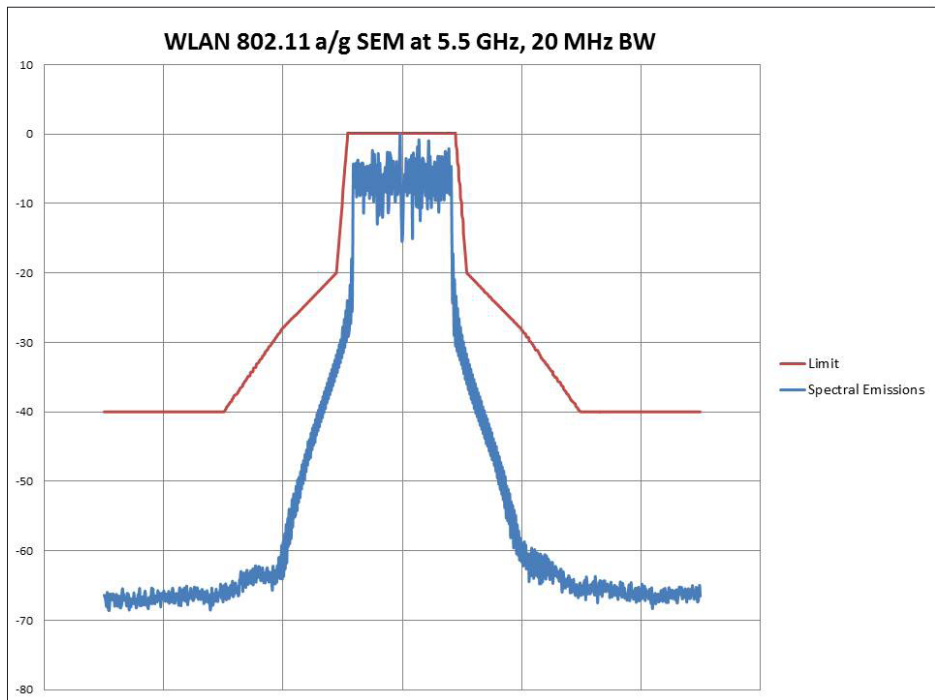

Figure 12. WLAN 802.11 a/g SEM at 5.5 GHz, 20 MHz bandwidth.
5.5 GHz, 20 MHz BW	See Figure 12